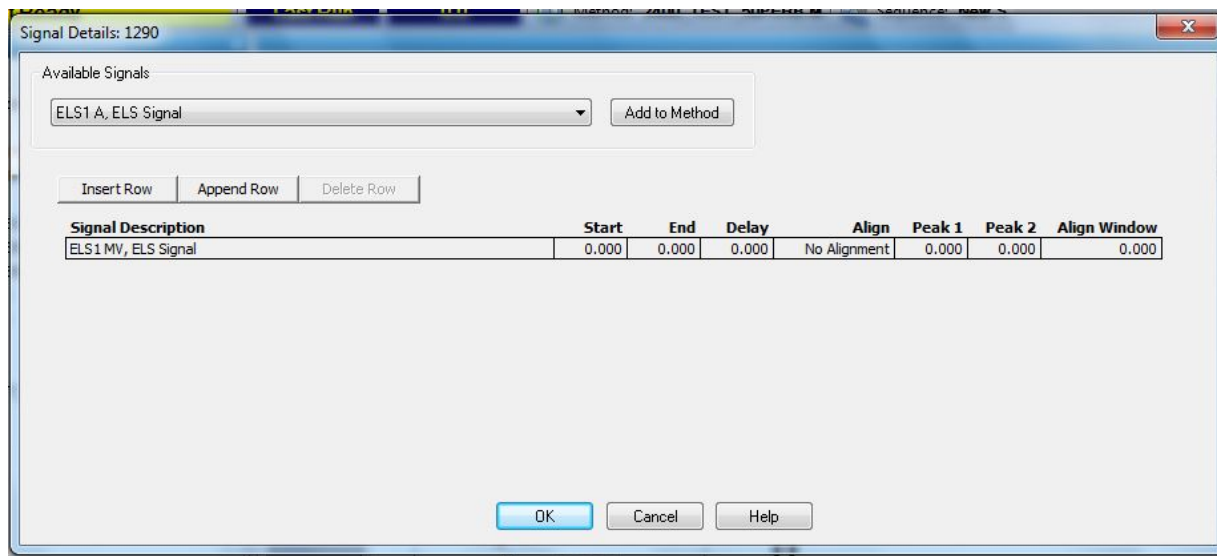

Figure 8: Signal details
- As part of the new or changed method, make sure the ELSD signal is available for use as part of the method, and set the alignment (Figure 8). See your Agilent information for the parameters for external signals.